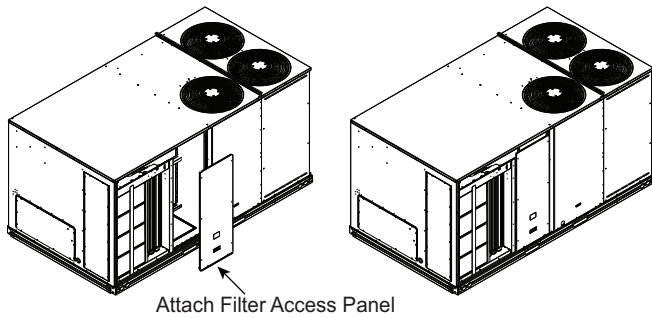

Fig. 7 — Attach the O/A Panel
14. Attach the O/A (Outdoor Air) panel, see Fig. 7.